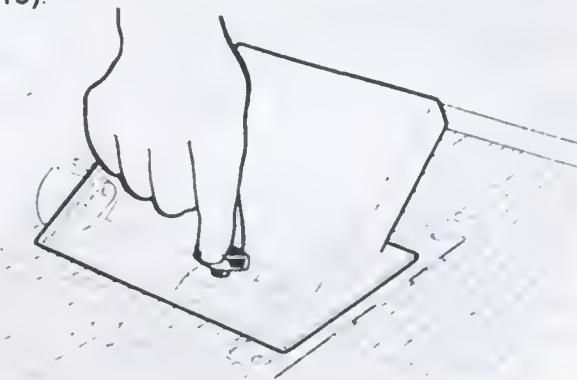

Fig. 15
To prepare the machine for thicknessing, the guard - which also acts as a shavings chute - must be mounted over the cutterblock. Insert the tab in the appropriate slot on table (B) and tighten the clamping screw (Figure 15).